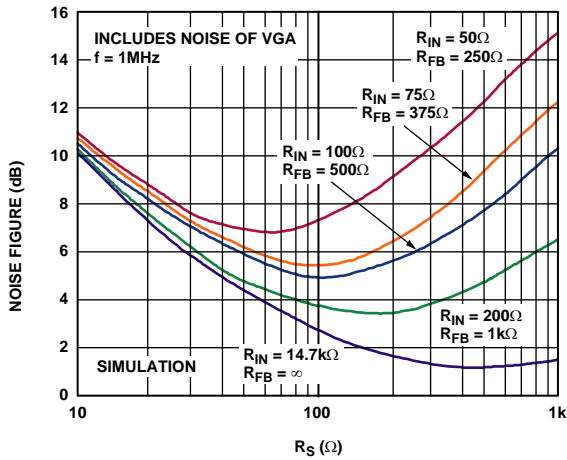

Figure 56. Simulated Noise Figure vs. R_S for Various Fixed Values of R_{IN} , Actively Matched
Figure 56 shows the simulated noise figure (NF) vs. source resistance, and various values of preamplifier R_{IN} from 50 Ω , to 14.7 k Ω , the value seen looking into Pins PIP_x when $R_{FB} = \infty$. As shown in the figure, the minimum NF for $R_{IN} = 50 \Omega$ is slightly less than 7 dB. Note that, for this preamplifier, the NF is optimized for the R_{IN} from 50 Ω to 200 Ω ; for $R_{FB} = \infty$, the minimum NF is at approximately 480 Ω . This optimum noise resistance can also be calculated by dividing the input referred voltage noise by the current noise.